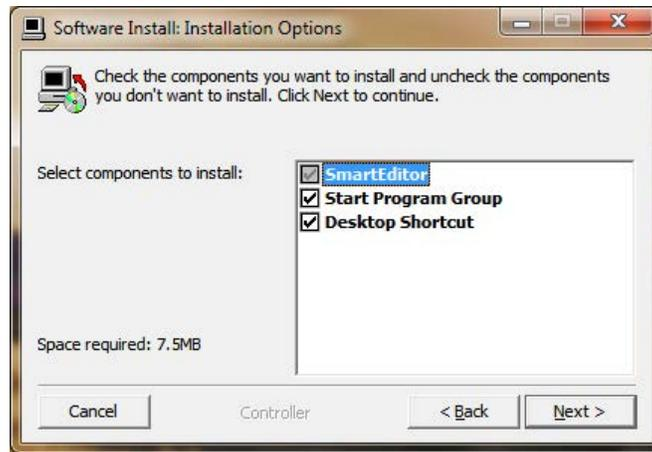
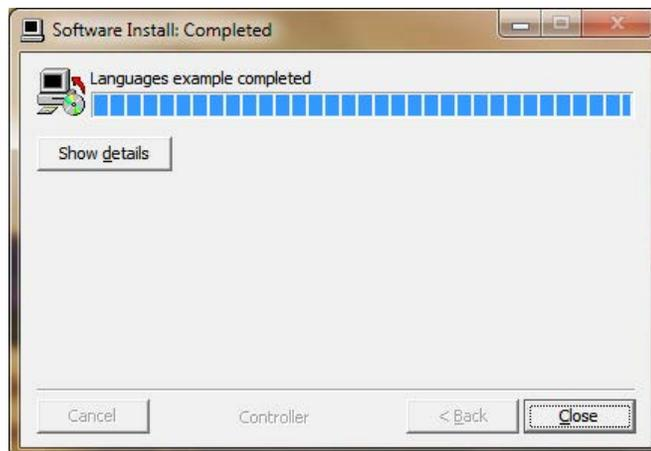

Figure 10. Software Installation Select Options Screen
Figure 12. Software Installation Progress Screen
6. When the progress bar in the *Software Install Progress Screen* (Figure 12) shows that the installation is complete, click the *Close* button to exit the software installation. If the *Desktop Shortcut* option was selected in the *Software Installation Select Options Screen* (Figure 10), the following icon will be displayed on the desktop.